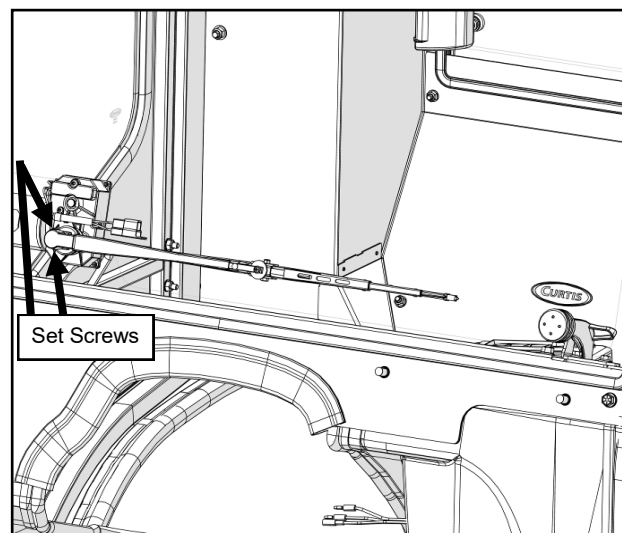

Fig. 19.3 (Wiper Arm and Blade)
- 19.3** Install the wiper arm onto the wiper motor so that the wiper is horizontal. See Figure 19.3. Tighten the Set Screws.